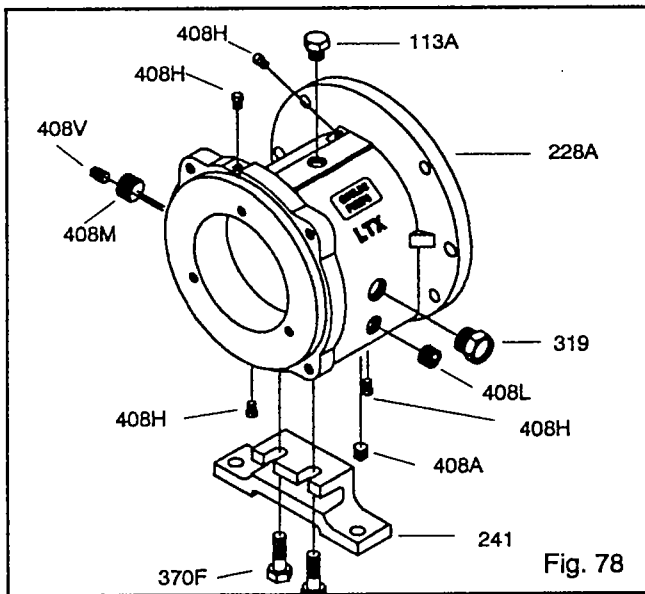

Fig. 78
1. Install the oil fill plug (113A), oil drain plug (408A), sight window (319), sight oiler plug (408J), 4 oil mist connection plugs (408H) or grease fittings (193) and grease relief plugs (113), and oil cooler inlet and outlet plugs (408L, 408M) in bearing frame (228) (Fig. 78).
2. Attach bearing frame foot (241) with bolts (370F). Hand tighten.